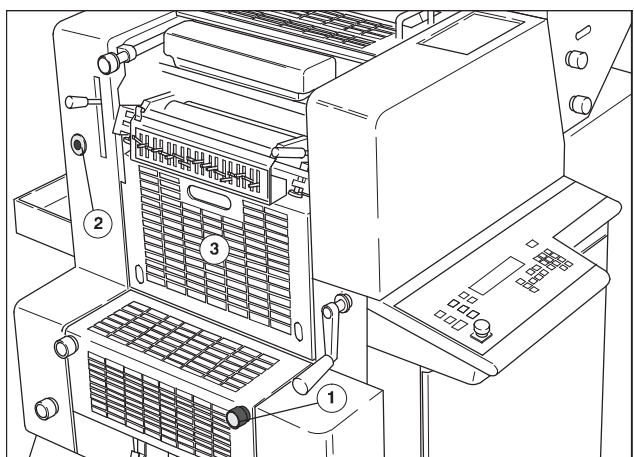

Fig. 39 Inserting the cylinder jacket
2. Move the circumferential register in PU 1 10 mm towards the lead edge of sheet (turn clockwise) using the control knob (Fig. 39/1); the jacket front edge is then pressed by the blanket cylinder in the plate clamp.
4. Set the **printing pressure** to the lowest printing material thickness (0.04 mm) (largest squeeze) using the adjusting screw (Fig. 39/2).
8. Open the guard in front of the inking unit (Fig. 39/3).